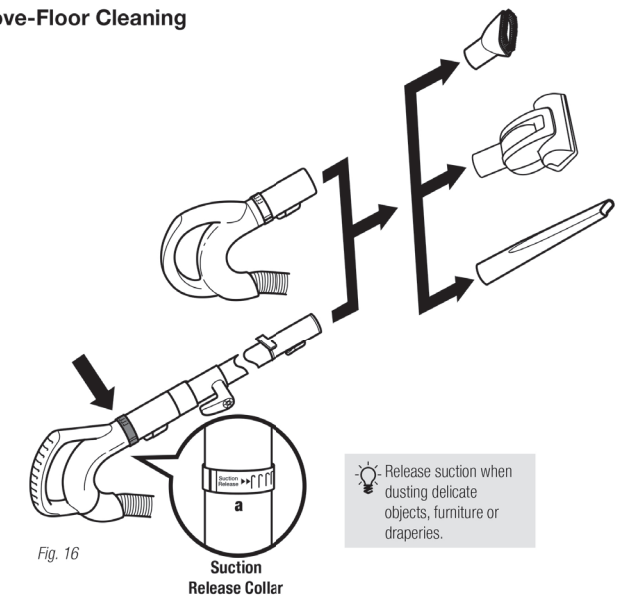

Fig. 16
- Attach desired accessory onto the end of either the extension wand or the handle. (Fig. 16)
drapes or fine surfaces. Close the valve (a) by rotating the collar clockwise 90° for high suction and when using the hand held power brush. (Fig. 16-a)